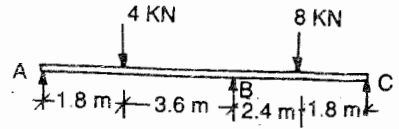

Fig. 9.56
18. Draw the B.M. and S.F. diagrams for the two span continuous beam shown in figure 9.56. The beam is simply supported at A and C and is continuous over support B (J.M.I.)